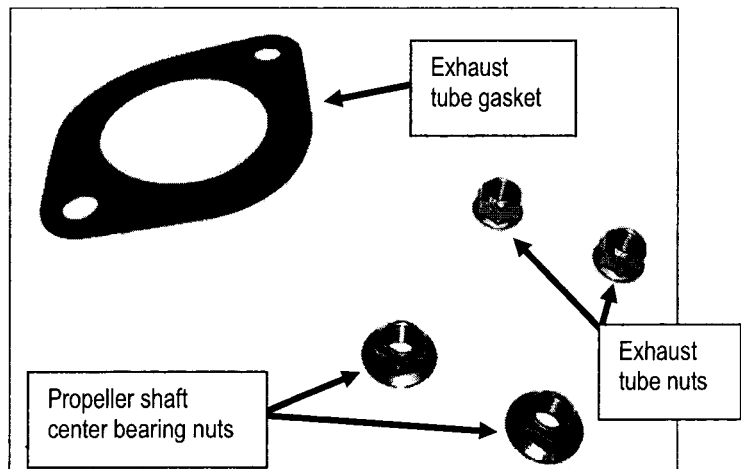

Figure 1f
- Propeller shaft center bearing nuts (see Figure 1f)
- Exhaust tube nuts (see Figure 1f)
- Exhaust tube gasket (see Figure 1f)